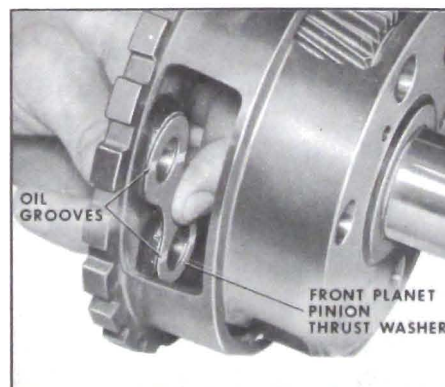

Figure 5-272
3. Install front planet pinion thrust washer. Retain thrust washer to case with grease. Oil grooves on the thrust washer must be toward the pinion gears. See Figure 5-272.